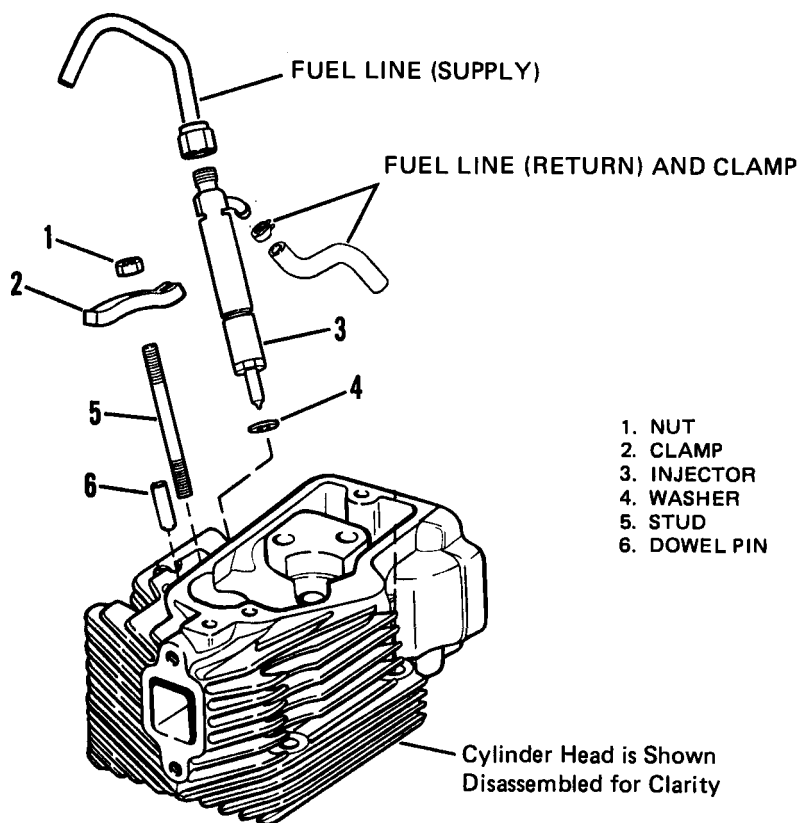

Figure 6-4. Fuel Injector Removal and Installation.
- (1) Disconnect fuel supply and return lines at the injector (see Figure 6-4). Plug openings in injector and lines to prevent the entry of dirt.
- (2) Remove nut (1, Figure 6-4) securing injector clamp (2). Remove clamp (2).
- (1) If removed, apply sealing compound (Table 2-2, item 5) to stud (5, Figure 6-4) and install. If removed, install dowel pin (6).
- (2) Seat new copper washer (4) in injector bore.
- (3) Install injector (3) into bore.
- (4) Secure injector with clamp (2) and nut (1). Tighten nut (1) to a torque of 7 to 8 ft lbs (9 to 11 N.m).
- (5) Connect fuel supply and return lines to injector.